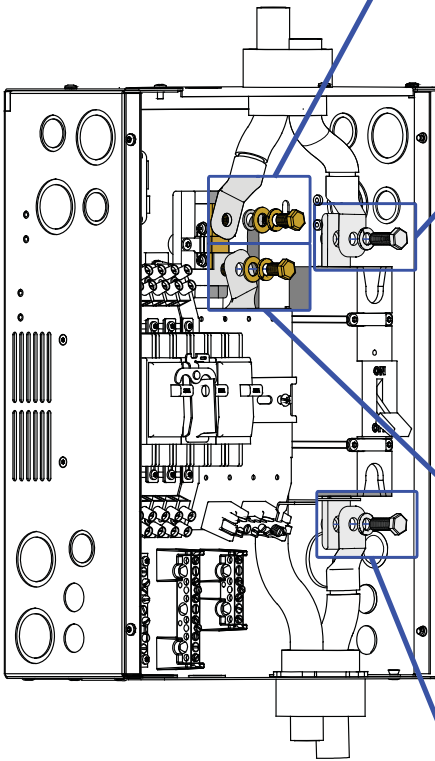

Figure 2-11, DC Connections – without Magnum Inverter Installed
3. Ensure the DC wire connections (on the batteries, inverter, DC circuit breaker, and DC shunt) are flush on the surface of the DC terminals and the hardware used to hold these connections are stacked correctly (see Figures 2-11 and 2-12); and then securely tighten these DC connections. Only after the entire installation is complete and all connections are verified should the DC circuit breaker be closed to provide power to the inverter.